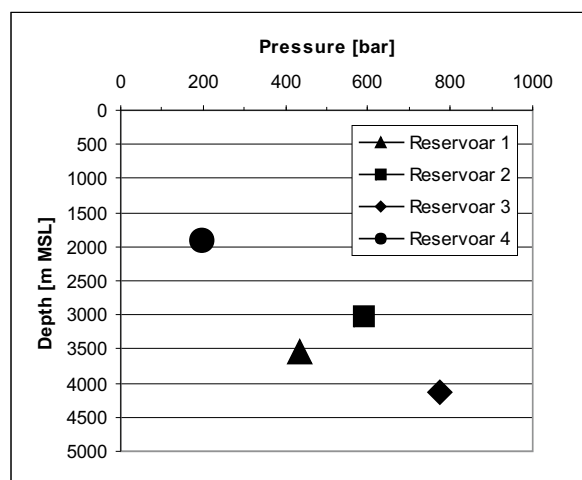

Figure 4: Reservoir pressure as function of total depth.
Figure 4 shows the reservoir pressure as function of total depth for four different gas reservoirs, where two reservoirs are in hydrostatic equilibrium.
2. For the two reservoirs in Figure 4, which seems not to be in hydrostatic equilibrium, - what can generally be said about the size and existence of an associated aquifer?